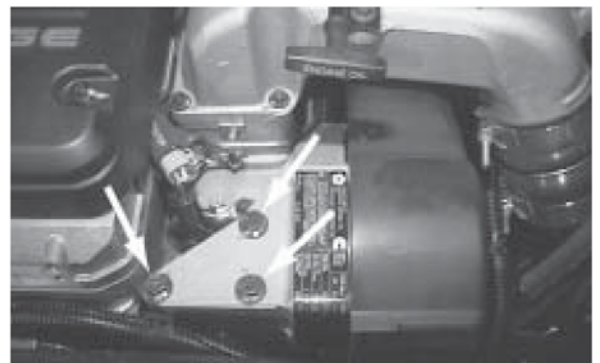

Figure 6
a. Reinstall the Throttle Position Sensor assembly. See figure 6.
b. Torque the three (3) cap screws to 48 N.m (35 ft lbs).